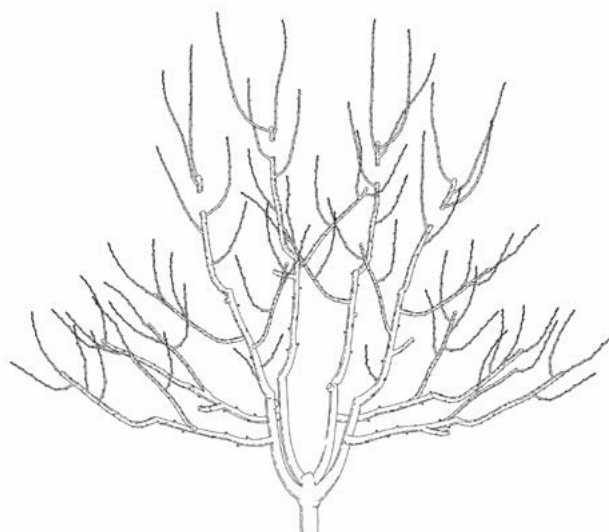

Figure 39
- As the tree reaches maximum height, prune the top back to one weak lateral, generally in late summer (Figure 39).